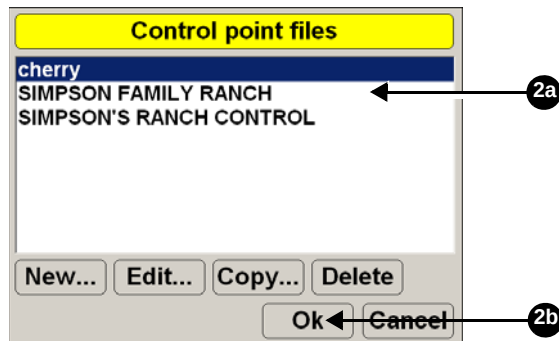

Figure 3-3. Applying a Control Point File
2. Select the control point file for the jobsite and press **Ok** (Figure 3-3).